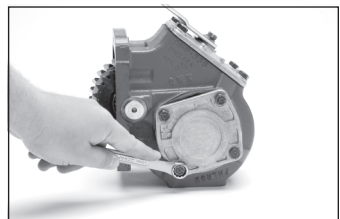

Fig. 9
12. On the closed end bearing cap remove the bottom left cap bolt as shown in Fig. 9. This will be used later to attach the heat shield.